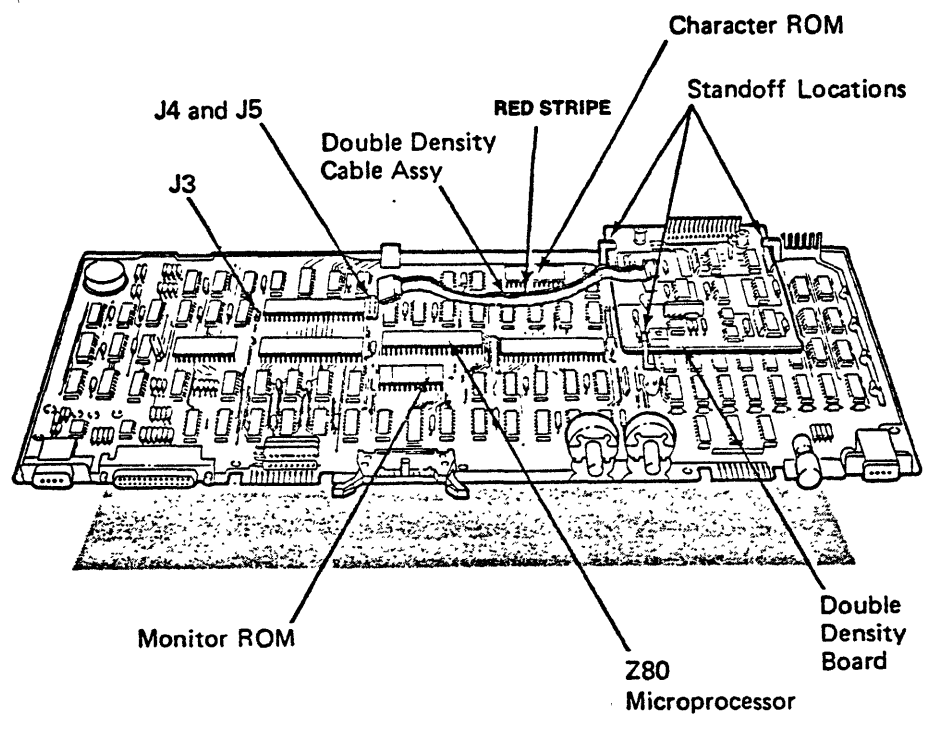

FIGURE 8
- B.** Slide the (3) standoffs onto the Logic PWB and position them as shown on Figure 8.